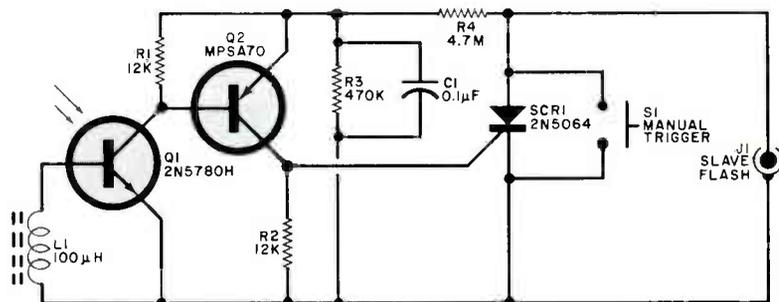

Fig. 2. Circuit for a slave-flash trigger that is not affected by steady-state ambient light.
**Other Circuits.** The slave-trigger circuit in Fig. 2 has practically no delay at all. It is therefore suitable for situations in which the slight delay introduced by the timing circuit of the PMS would cause an undesirable second image or smearing. This circuit has two unusual characteristics—it is not triggered by steady-state ambient light, and it derives its modest operating power from the flash to which it is connected.